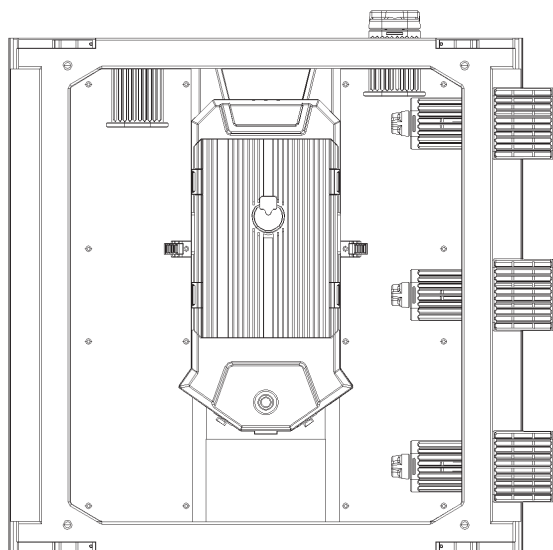

Figure 2.1.3 Standard connectors for cabinet
Please note: Our standard issue of the connectors would be 2 vertical connectors(C) and 3 horizontal connectors(B) as shown in Figure 2.1.3.